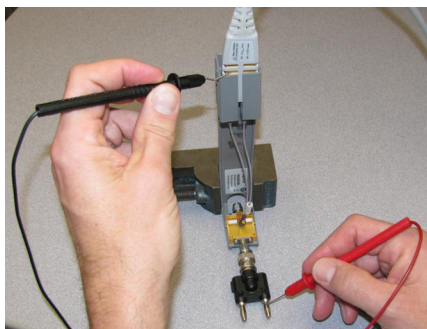

Figure 109 Measuring the Single-Ended Input Resistance the Solder-In Probe Head
- 7 To measure the single-ended input resistance, measure the resistance between the signal plug of the banana adapter and the probe amplifier ground, which can be accessed as shown in **Figure 109** (through the vent window of the probe amplifier).